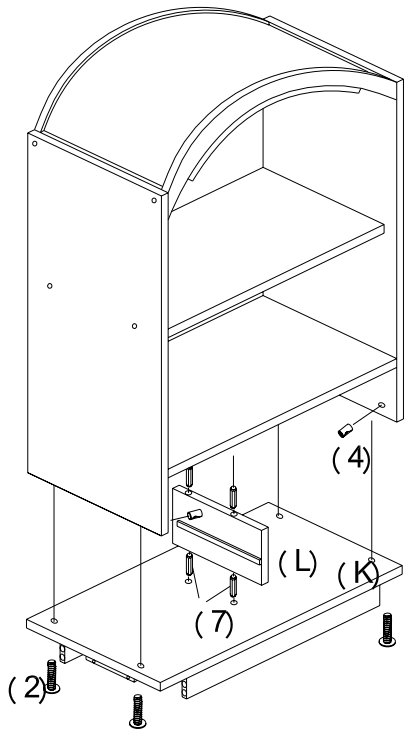

**FIGURE 1**
3. INSERT SMALL WOOD DOWELS (Ø6x20mm) (7) INTO PREDRILLED HOLES ON ENDS OF UPPER AND LOWER FIXED SHELVES (D, E) AND FIT INTO CORRESPONDING HOLES ON INSIDE OF UPPER LEFT SIDE PANEL (B). INSERT T-BOLTS (4) INTO PREDRILLED HOLES ON UNDERSIDE OF UPPER FIXED SHELF (D). INSERT LARGE MACHINE SCREWS (Ø1/4"X1-1/2") (2) THROUGH PREDRILLED HOLES ON OUTSIDE OF UPPER LEFT SIDE PANEL (B) AND TIGHTEN INTO T-BOLTS (4). PLEASE NOTE THAT IF SCREWS DO NOT TIGHTEN, ROTATE T-BOLTS (4) SO THAT THE THREADS OF T-BOLTS (4) ARE FACING SCREWS. TIGHTEN MEDIUM MACHINE SCREWS (Ø1/4"X1") (1) THROUGH PREDRILLED HOLES ON OUTSIDE OF UPPER LEFT SIDE PANEL (B) INTO THREADED HOLES ON END OF TOP PANEL (A). FIT PLASTIC PLUGS (5) INTO HOLES ON OUTSIDE OF UPPER LEFT SIDE PANEL (B). ASSEMBLE UPPER RIGHT SIDE PANEL (C) IN SAME MANNER. (AS SHOWN IN FIGURE 1)